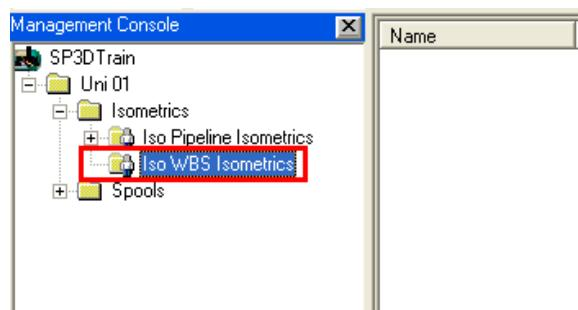

Figure 18.37: Management Console
30. In the **Management Console** and expand the drawing hierarchy to **Unit 01>Isometrics>Iso WBS Isometrics**, as shown in Figure 18.37. SP3D displays a message box. Click **OK** to continue.